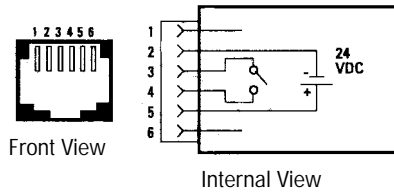

Fig. 6
Step 5: Determine the line button number of the "make busy" feature (see Fig. 6). For example, if the "make busy" feature is located on line button 4, then press  on the dial pad of the MBS.